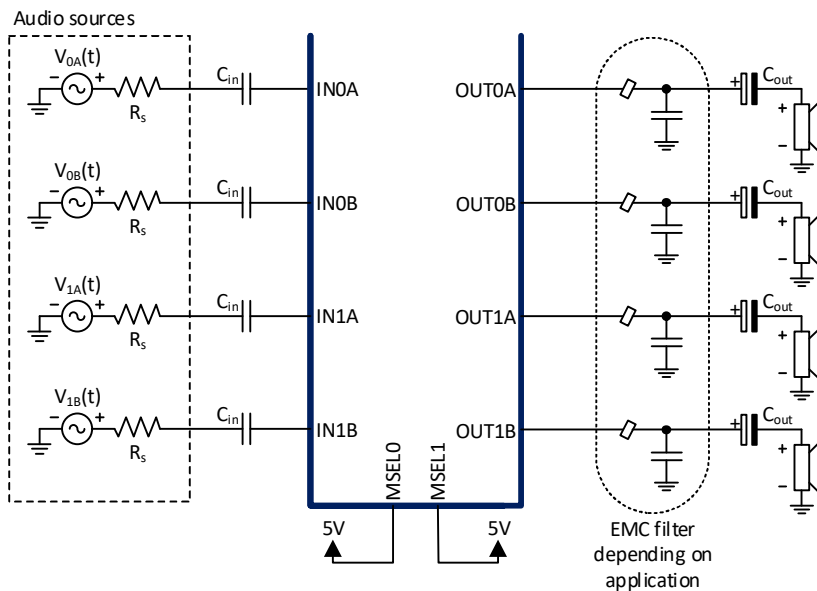

Figure 9-3 Four channel, single ended (SE) configuration
In single ended (SE) configuration, the MA12040 is able to drive one loudspeaker per output power stage, i.e. up to four loudspeakers. The output is biased to half the power supply voltage, $\frac{1}{2}$ PVDD. One of the solutions to drive a speaker in this configuration is to use AC-coupling capacitors (C_{out}) in series with the load, as shown in Figure 9-3. The value of the capacitors depends on the load resistance and the desired audio bandwidth.